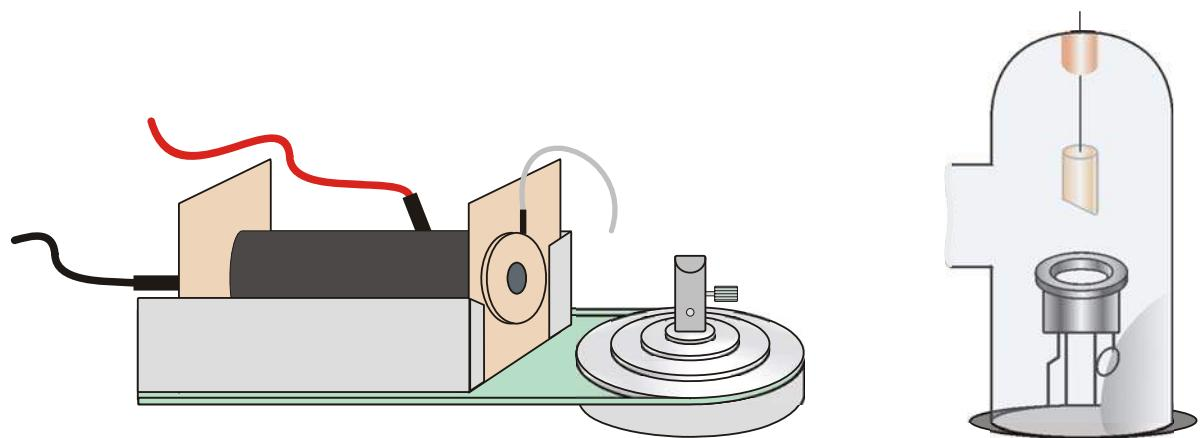

Fig. 2 Inserting the ionisation chamber onto the measuring arm
- Slot the ionisation chamber onto the measuring arm (see Fig. 2).